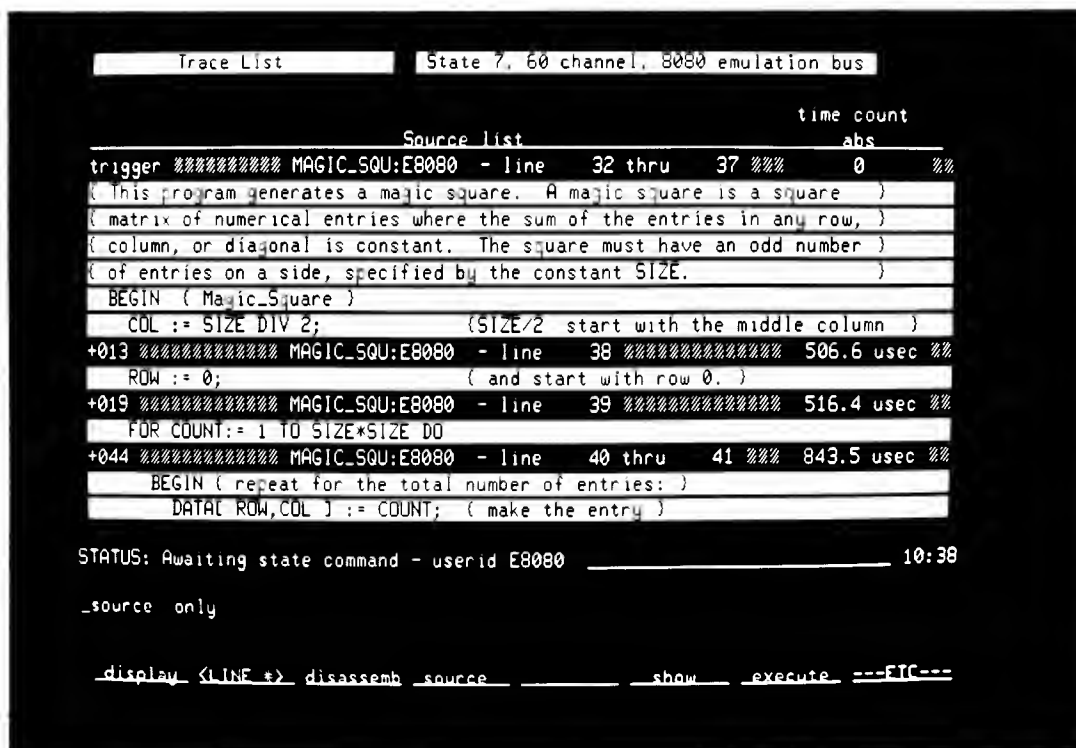
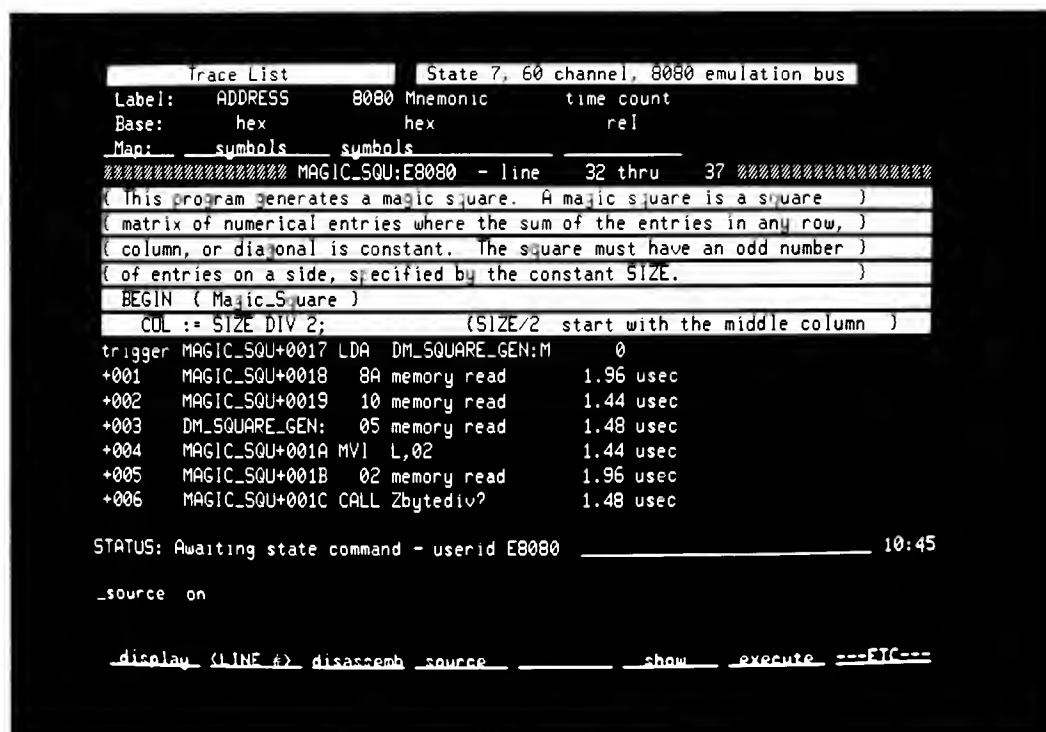

Figure 10-2. Typical Display Of High-Level Source Statements (source only)
Figure 10-3. Typical Mixed Display of High-Level Source Statements and Associated Trace Data (source on)
Figure 10-2 is only available to a state/software analyzer equipped with a memory expander. You can obtain this display by pressing the following keys:
Figure 10-3 shows a mixed display of high-level source statements and trace data. As with Figure 10-2, a memory expander is required to obtain this display. Press the following keys to obtain the display shown in Figure 10-3.
2. `(source) (only)` - selects lines from the high-level source file that emitted the trace data in memory, along with analyzer-induced comments (such as Figure 10-2).
3. `(source) (on)` - selects displays combining 1 and 2, above (such as Figure 10-3).